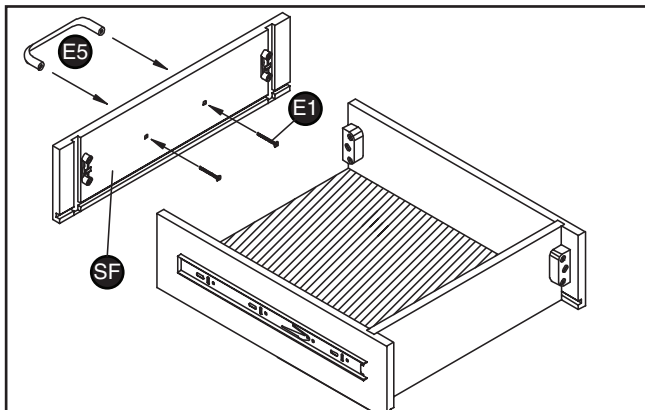

Figure 18. Final drawer assembly.
18. Install the drawer fronts (SF) (**Figure 18**), the handles (E5), the screws (E1), and insert the drawers into the work bench drawer slides.